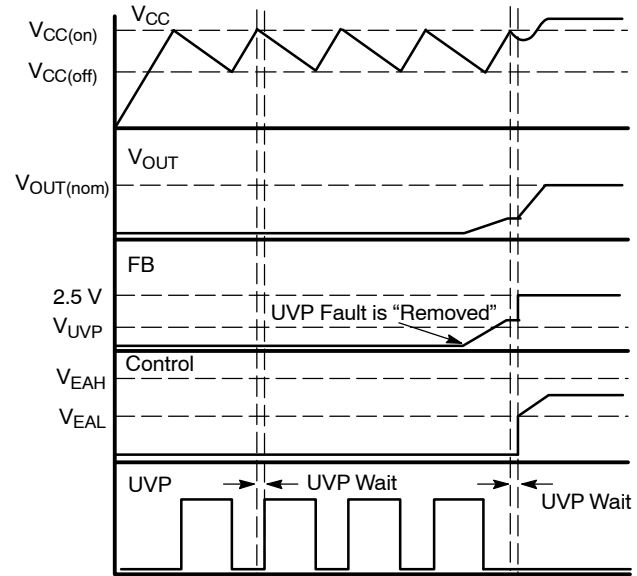

Figure 36. The NCP1606's Startup Sequence with and without a UVP Fault
Furthermore, the NCP1606 incorporates a novel startup sequence which ensures that undervoltage conditions are always detected at startup. It accomplishes this by waiting approximately 180  $\mu\text{s}$  after  $V_{CC}$  reaches  $V_{CC(on)}$  before enabling the error amplifier (Figure 36). During this wait time, it looks to see if the feedback (FB) voltage is greater than the UVP threshold. If not, then the controller enters a UVP fault and leaves the error amplifier disabled. However, if the FB pin voltage increases and exceeds the UVP level, then the controller will start the application up normally.